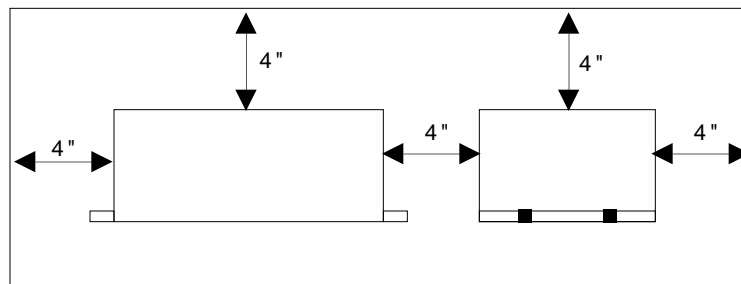

Figure 3-6. Enclosure Mounting Guidelines
- ① The vertical and horizontal clearance between the LN Drive and other equipment, or the top or bottom of the enclosure, should be no less than 4 inches. (Refer to Figure 3-6.)
- ② Do not mount large, heat producing equipment directly beneath the LN Drive.
- ③ Do not mount the LN Drive directly below an indexer (The LN Drive produces more heat than an indexer.)